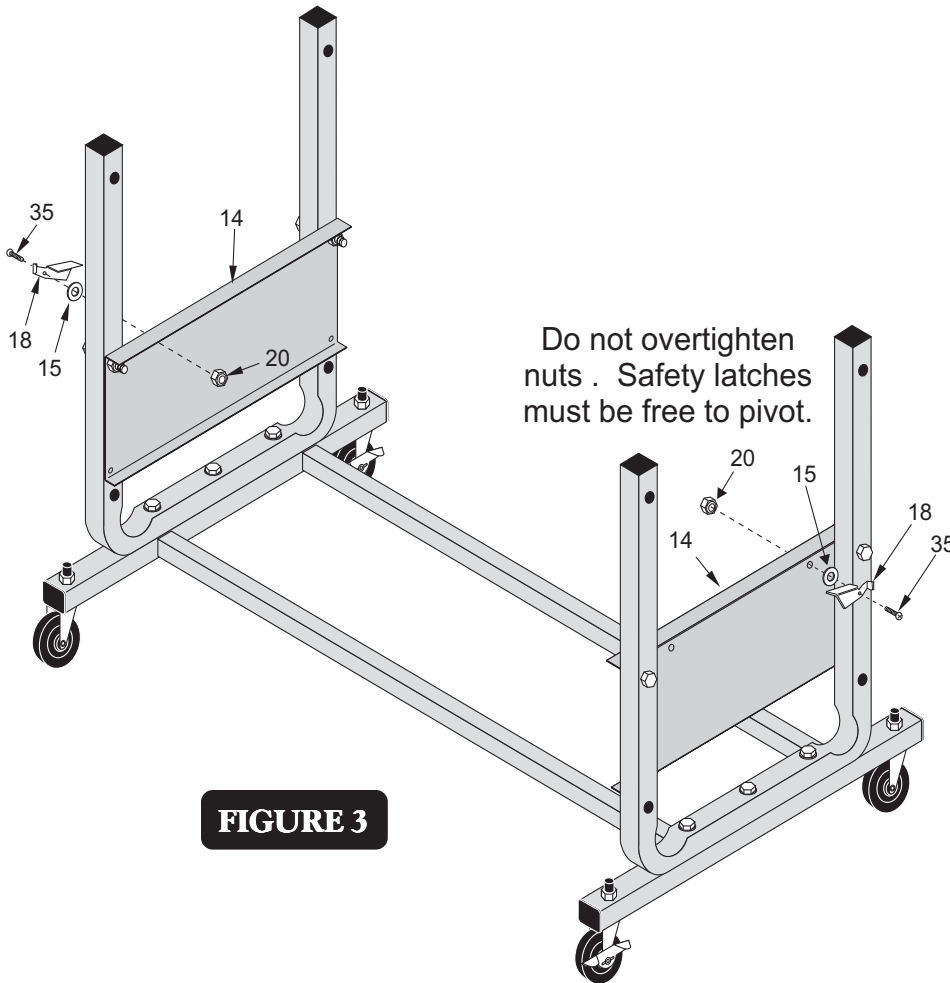

FIGURE 3
6. Install the Safety Latches #18 to the Name Plates #14 using two screws #35, safety latch #18, washer #15 and locknut #20. **Safety Latches must be installed opposite each other on both sides of the assembly.** (See figure 3)